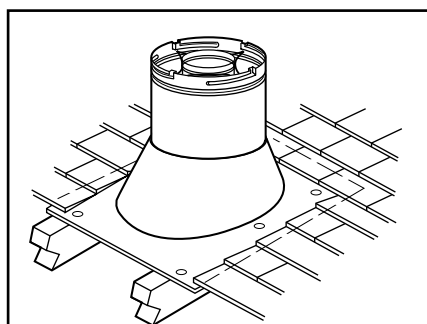

Figure 27
I. Install the roof flashing - Extend the vent sections through the roof structure. Install the roof flashing over the vent section and position such that the vent column rises vertically (use carpenter's level) (**Figure 27**). Nail along perimeter to secure flashing or adjust roofing to overlap the flashing edges at top and sides only and trim where necessary. Seal the top and both sides of the flashing with waterproof caulking.